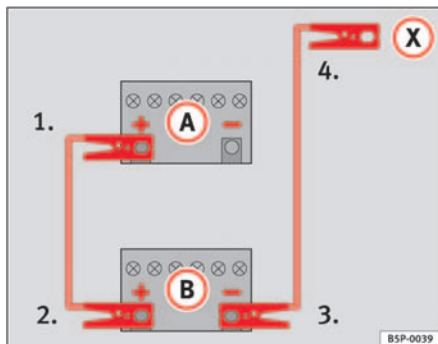

Fig. 158 How to connect the jump leads
In ⇒ fig. 158, the flat battery is (A) and the charged battery (B).
1. Connect one end of the red jump lead to the positive ⇒ fig. 158 (+) terminal of the vehicle with the flat battery ⇒ ⚠.
4. Connect the other end of the black jump lead (X) to a solid metal component which is bolted on to the engine block, or onto the engine block itself of the vehicle with the flat battery. Do not connect it to a point near the battery ⇒ ⚠.